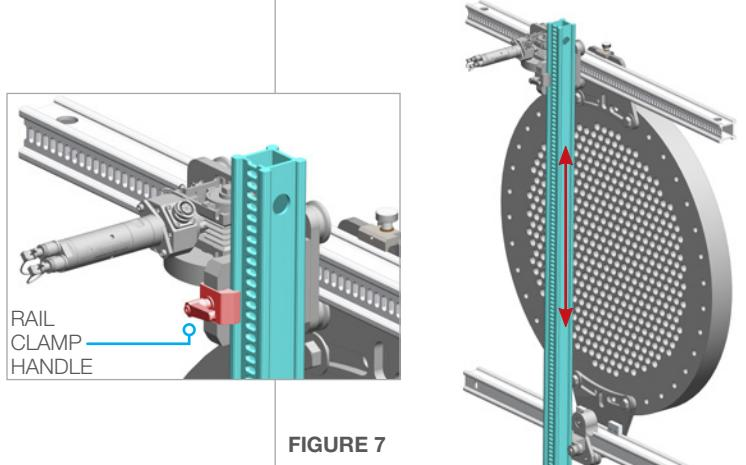

FIGURE 7
- Loosen the **Rail Clamp Handle** on the Horizontal Drive. Align the Idler Carriage on the lower rail so the Vertical Rail can slide into it. Slide the **Vertical Rail** with **(slots facing out)** down through the Horizontal Drive clamp and between the rollers on the idler carriage. Adjust the position of the vertical rail as required and secure the rail in place by tightening the **Rail Clamp Handle** on the Horizontal Drive. (**Figure 7**)